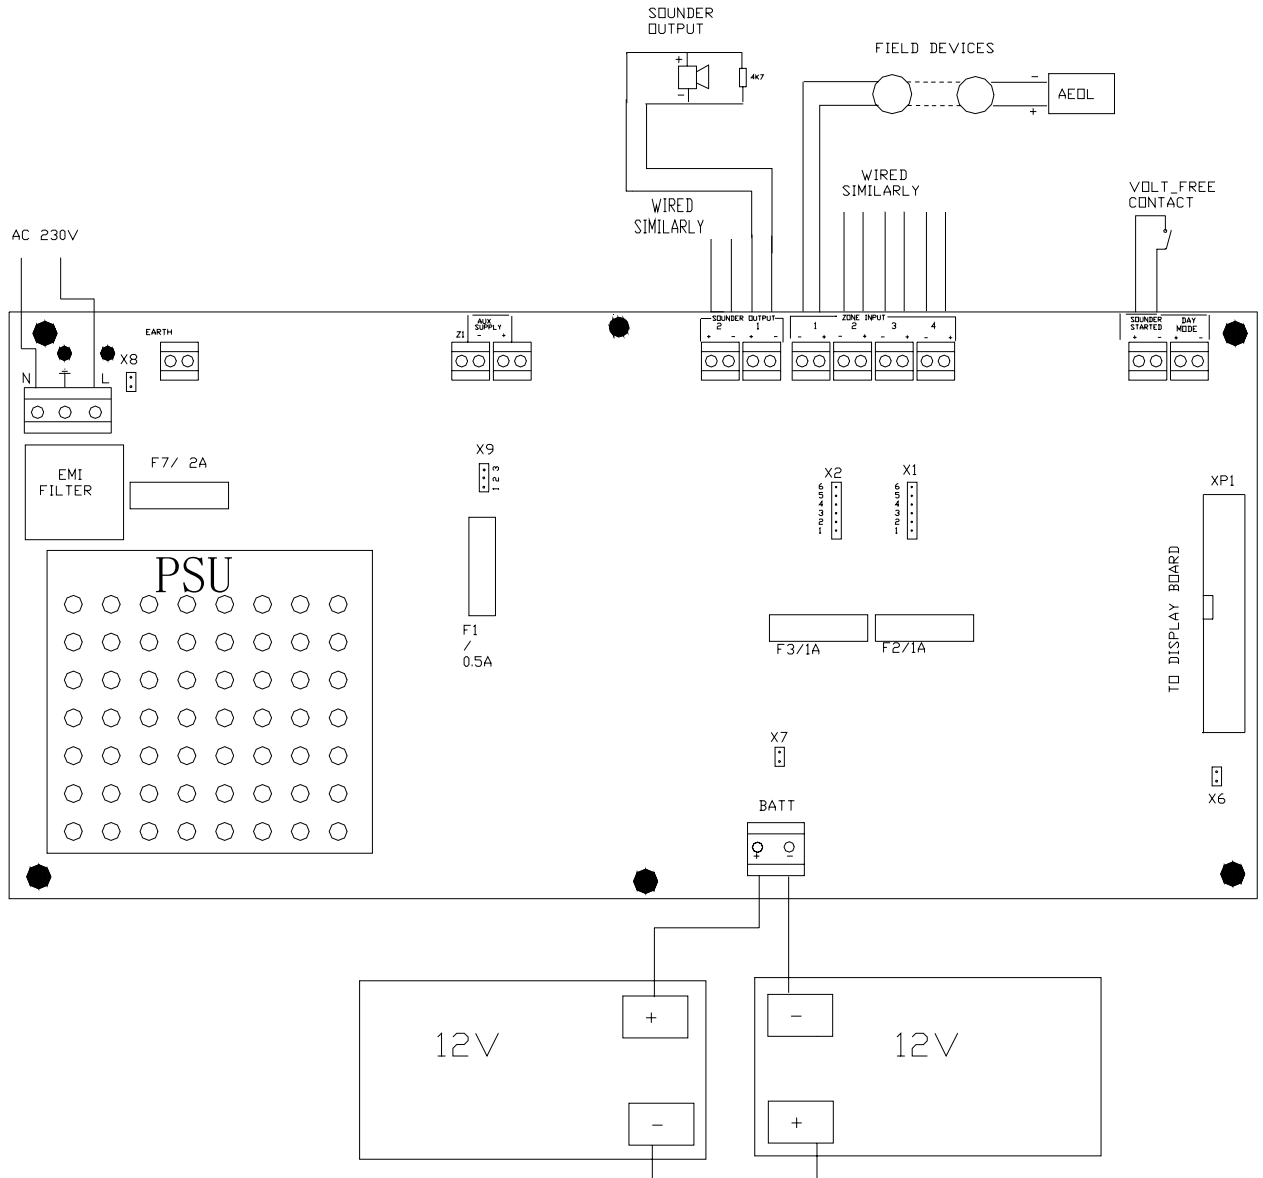

Fig.4.7
- 4.6.4 Output zone circuit connection: All the external sounders or remote devices should be polarized and be connected into the zone circuit terminals according to the polar shown in Fig.4.7. A 4.7K resistor should be connected to the last device of the zone circuit.